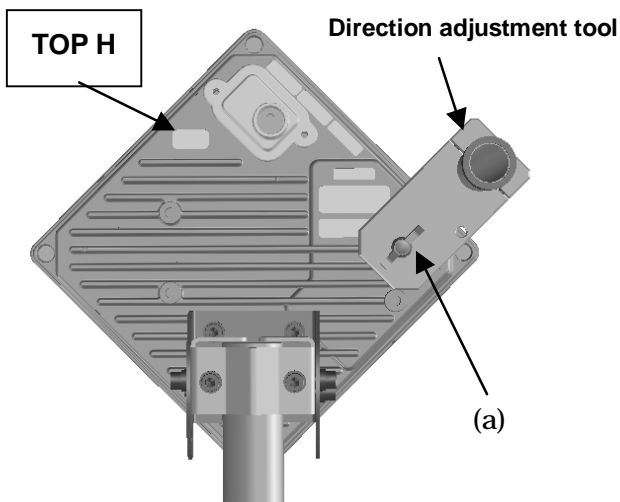
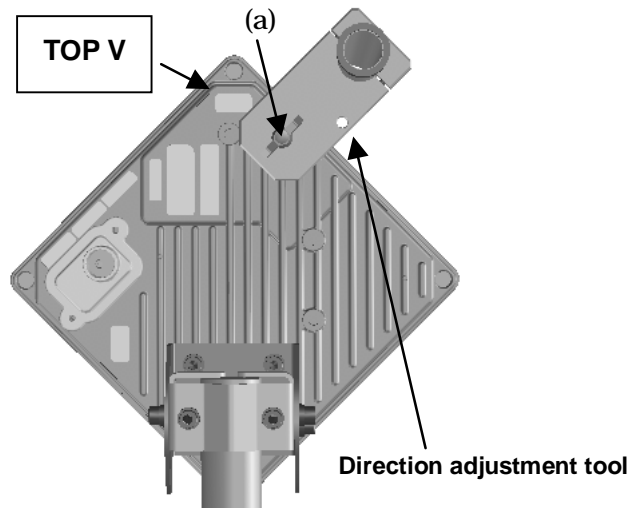

Figure 7-35 How to Install Direction Adjustment tool when the antenna type is the horizontal polarization
Figure 7-36 How to Install Direction Adjustment tool when the antenna type is the vertical polarization
- Step1 As shown in Figure 7-35 and Figure 7-36, use the wing bolt (a) to attach the Antenna direction adjustment tool.